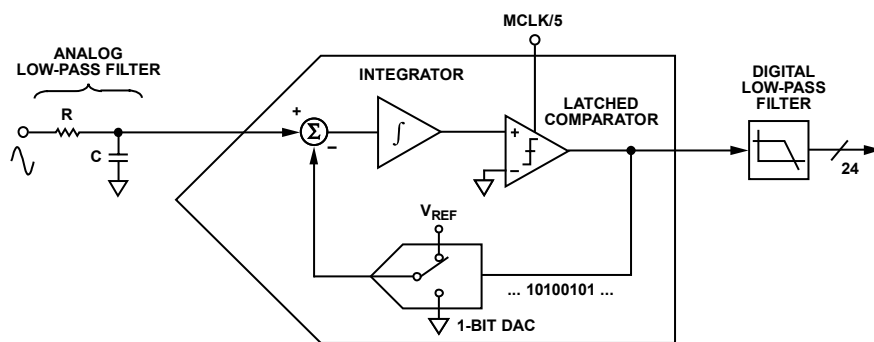
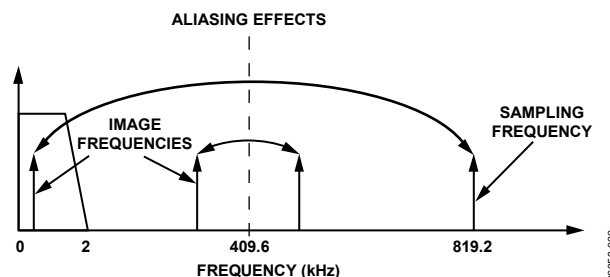

Figure 33. First-Order Σ - Δ ADC
Figure 34. ADC and Signal Processing in Current Channel Outline Dimensions
For simplicity, the block diagram in Figure 33 shows a first-order Σ - Δ ADC. The converter is made up of the Σ - Δ modulator and the digital low-pass filter.
Figure 33 also shows an analog low-pass filter (RC) on the input to the modulator. This filter is present to prevent aliasing, an artifact of all sampled systems. Aliasing means that frequency components in the input signal to the ADC, which are higher than half the sampling rate of the ADC, appear in the sampled signal at a frequency below half the sampling rate. Figure 34 illustrates the effect. Frequency components (the black arrows) above half the sampling frequency (also known as the Nyquist frequency, that is, 409.6 kHz) are imaged or folded back down below 409.6 kHz. This happens with all ADCs regardless of the architecture. In the example shown, only frequencies near the sampling frequency (819.2 kHz) move into the band of interest for metering (40 Hz to 2 kHz). This allows the use of a very simple LPF (low-pass filter) to attenuate high frequency (near 819.2 kHz) noise and prevents distortion in the band of interest.
For conventional current sensors, a simple RC filter (single-pole LPF) with a corner frequency of 10 kHz produces an attenuation of approximately 40 dB at 819.2 kHz (see Figure 34). The 20 dB per decade attenuation is usually sufficient to eliminate the effects of aliasing for conventional current sensors. However, for a di/dt sensor such as a Rogowski coil, the sensor has a 20 dB per decade gain. This neutralizes the -20 dB per decade attenuation produced by one simple LPF. Therefore, when using a di/dt sensor, care should be taken to offset the 20 dB per decade gain. One simple approach is to cascade two RC filters to produce the -40 dB per decade attenuation needed.